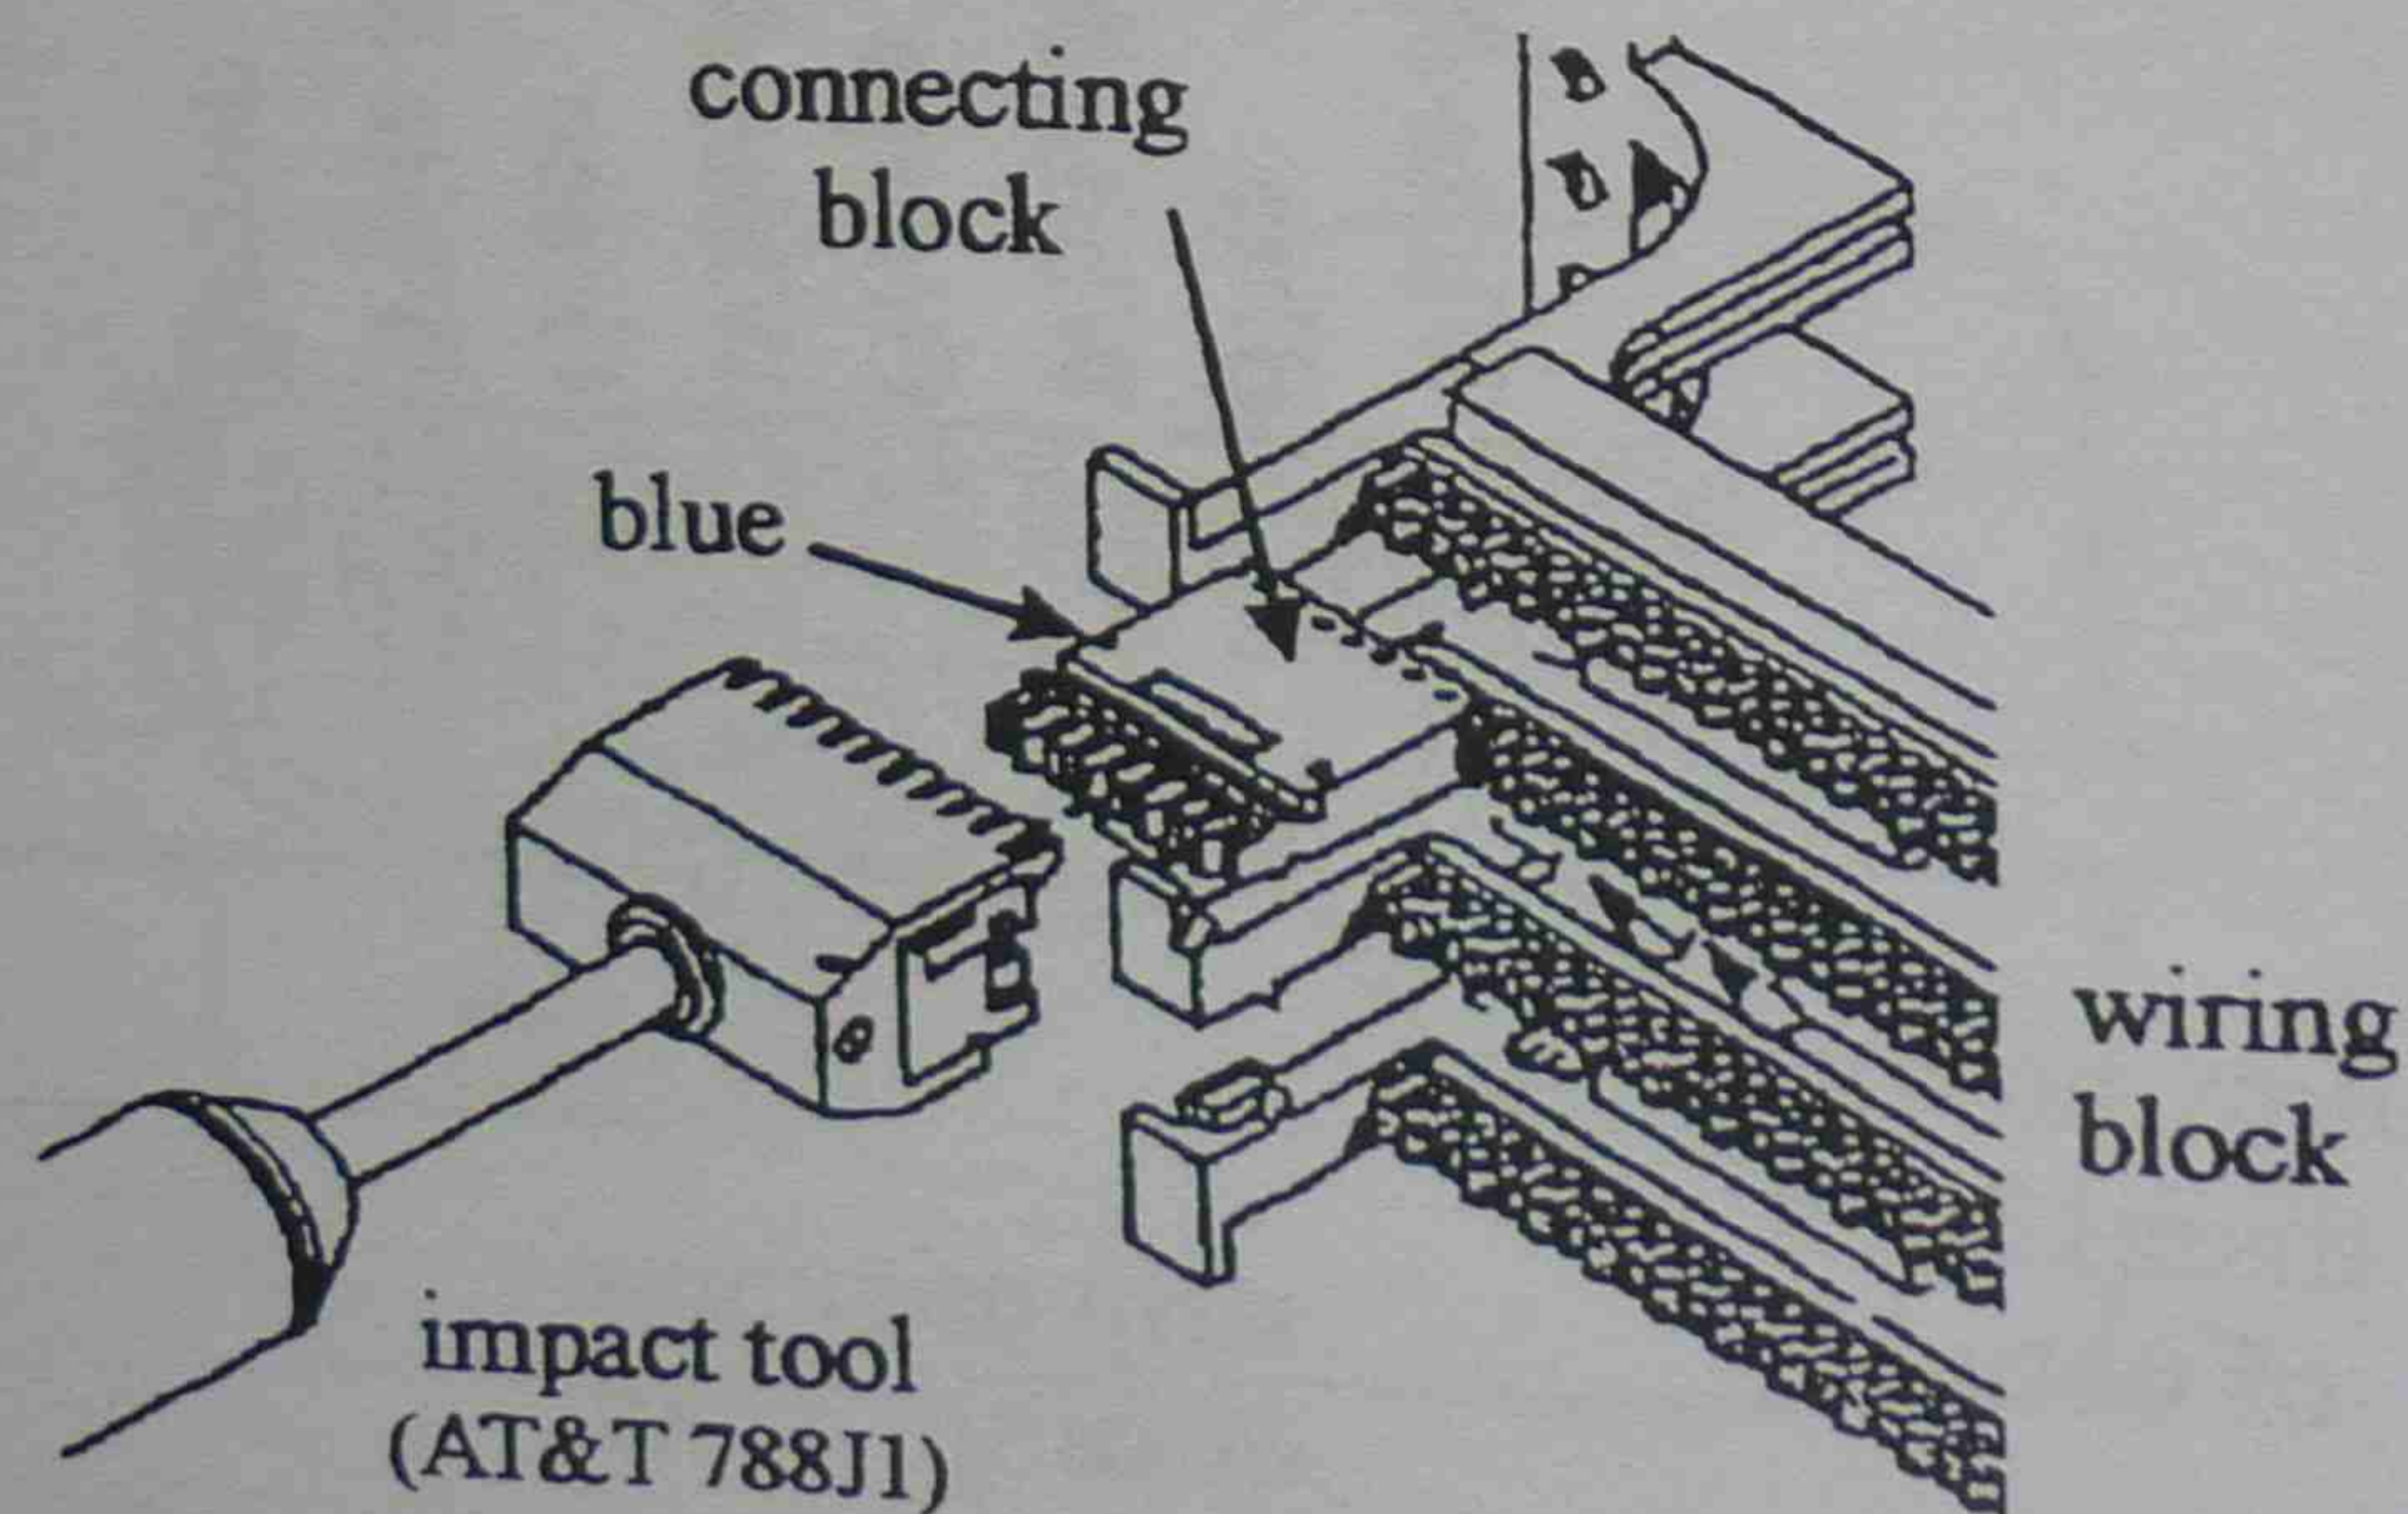

Figure 45 Installing cabling blocks
16. Seat the connecting block using an AT&T 788J1 impact tool or equivalent. Use Figure 45 as a guide.